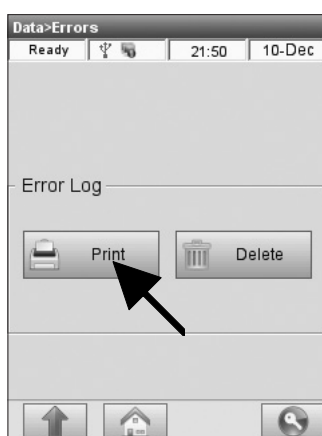

Fig. 6-25 Print or Delete Error Log
3. Press  to print the error report (Fig. 6-25).